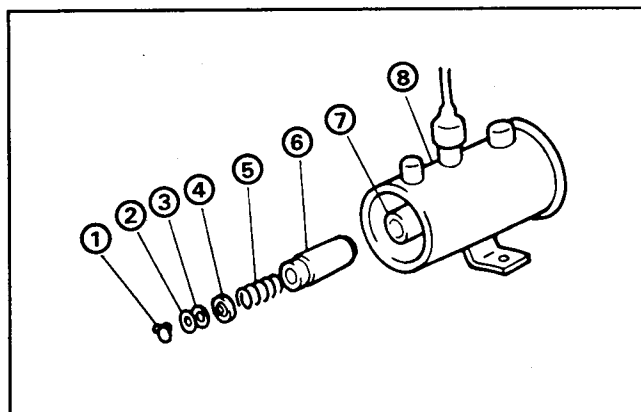

Figure 59
5. Carefully remove the spring retainer from the end of the plunger tube (Fig. 59). Remove the washer, o-ring, valve, plunger spring and plunger.